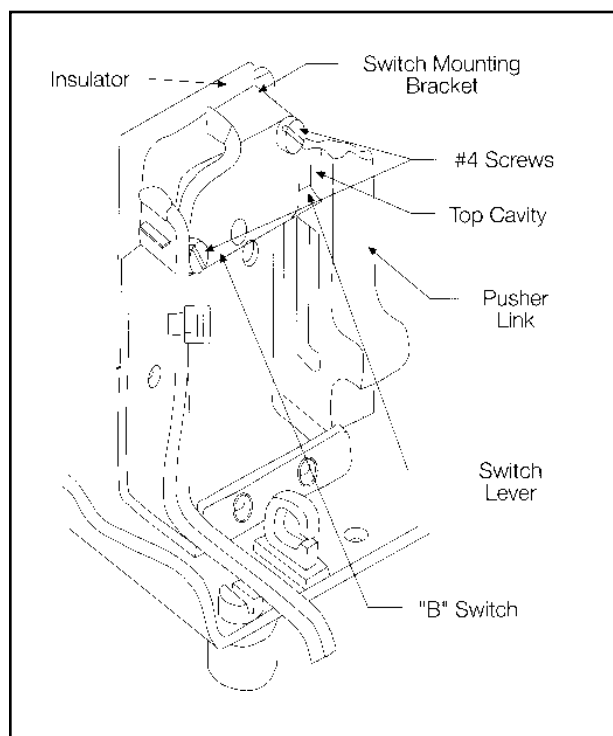

Figure 4. "B" Switch Mounting
- 9.) To mount the "B" switch, first make sure that the switch lever is inside the top cavity of the pusher link (See Figure 4).
- 10.) Make sure that the switch lever rests on the pusher link when the breaker main contacts are open (See Figure 4). Place insulator between "B" switch and bracket. Secure that "B" Switch with the (2) #4 screws provided. Note: Torque screws to 5-6 in. lbs.
- 12.) Connect wire marked RC from "B" switch to solenoid connector. (See Figures 4 and 5). Connect wires marked LC-B together.